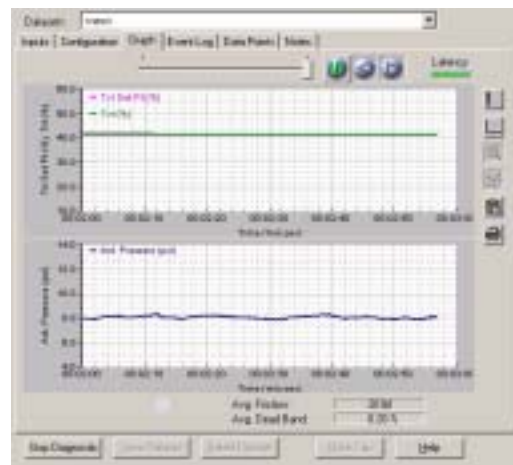

Figure 4. Valve Friction and Deadband Analysis
- On-Line/In-Service Friction and Deadband Analysis (see figure 4)